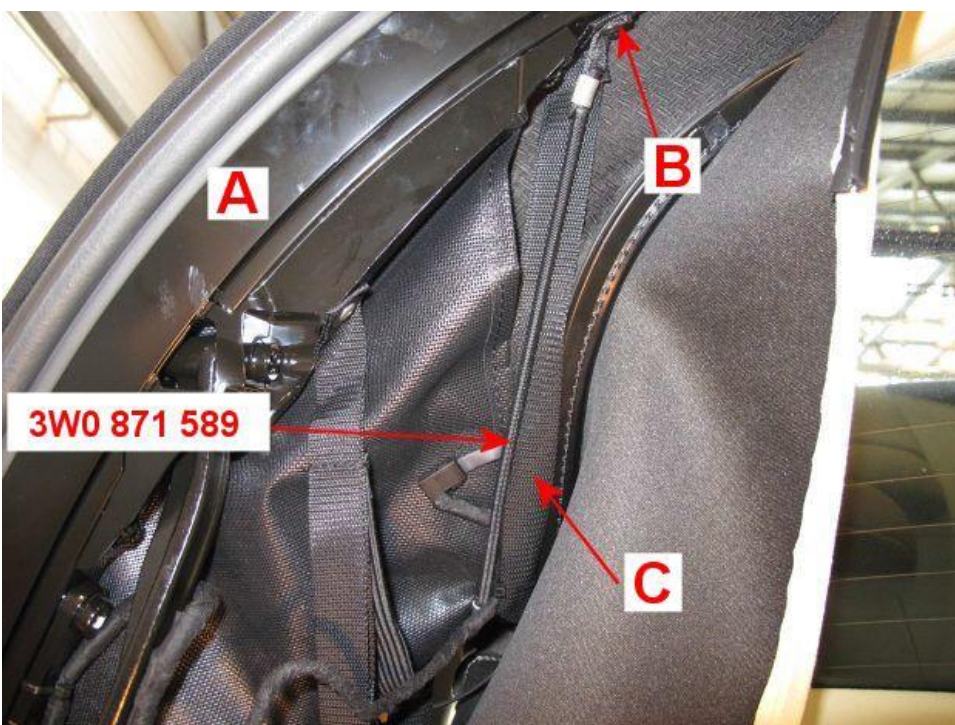

Figure 13
- At the rear bow (A) Remake connection using rivet WKN070058 at (B) adding the short end of new strap (part number 3W0 871 589) with the original strap (C) (Figure 13)